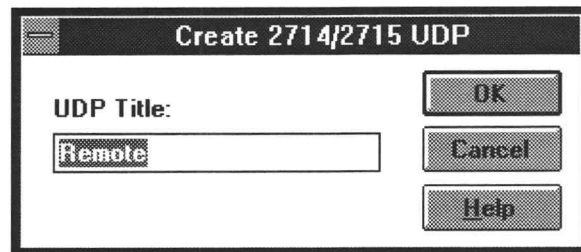

Figure 6-26. The Create 2714/2715 UDP dialog box.
4. Choose the Create 2714/2715 UDP command button. The dialog box appears as shown in Figure 6-26.